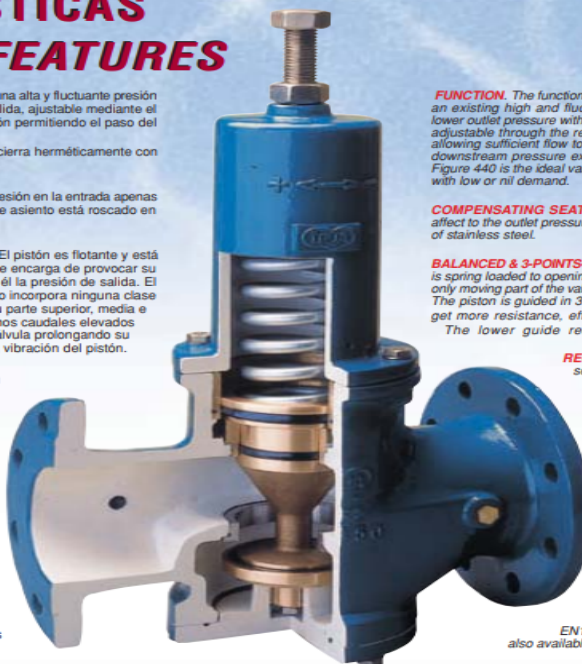

Figure 440
- Válvulas reguladoras completas: Las propias del modelo FIG. 440 de IRUA con manómetros instalados y purgador en la cámara, o equivalente, en el caso de ofertarse modelos similares.
Se adjunta hoja de especificaciones de la FIG 440 de IRUA.
FUNCTION. The function of 440 valve is to reduce automatically an existing high and fluctuating pressure to a predetermined lower outlet pressure without shocks. The outlet pressure will be adjustable through the regulation screw. The valve will throttle allowing sufficient flow to match the demand, closing when the downstream pressure exceeds the adjusting spring set point. Figure 440 is the ideal valve for systems with prolonged periods with low or nil demand.